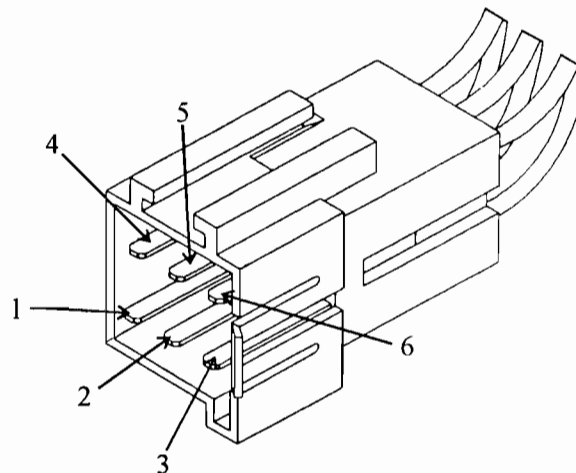

Figure 2
4. Check terminal 2 in the CCD connector (See Figure 2) for battery voltage by placing the positive meter lead to the terminal and the negative lead to a good known ground. If 0 volts is seen, check fuses. Depending on model and year, it could be fuse 2, 7, 11, 13, 15 or 23. If battery voltage is present, check the ground wire by placing the negative meter lead to terminal 6 and the positive lead to the negative post of the battery (See Figure 2). There should be 0.1 volt or less. If a higher voltage value is seen, clean or repair the ground wire.